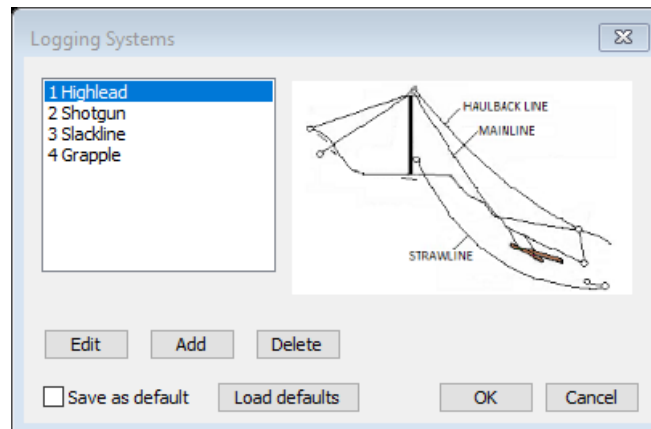

Figure 12-4: Logging Systems dialogue box.
- Select *Cable-Analysis* tab in the ribbon bar, then click on the  *Logging Systems* button. The *Logging Systems* dialogue box shown in Figure 12-4 below will appear.